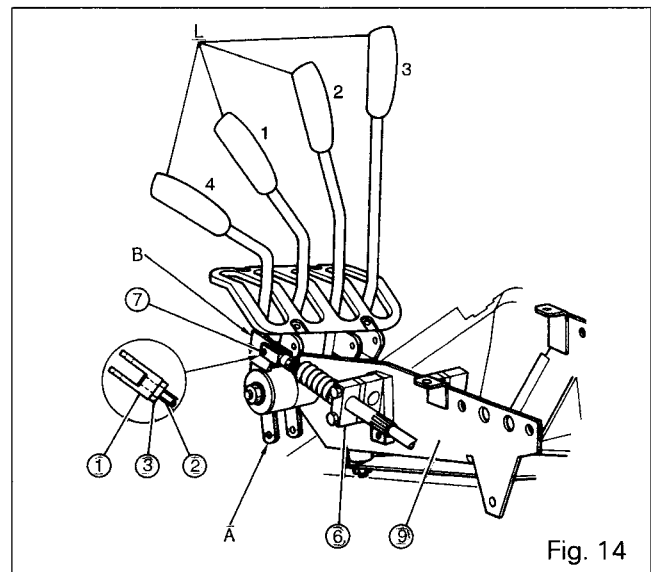
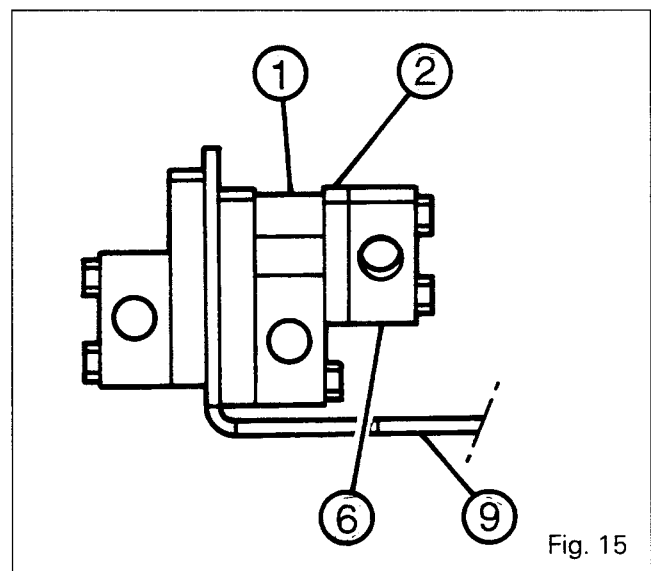

Fig. 14
Fig. 15
**Note:** According to the type of unit, the clevis (1) can be attached to rod A or B. Fig. 14.
1. Insert the cable into the slide at the back right-hand-side of the cab in the base (6).
**Note:** When the base (6) is displaced (floating position) assemble the spacer (1) and the plate (2) following Fig. 15.
2. Screw the clevis (1) to the end of the cable thread (2) and attach it to the rod A or B of the appropriate lever L using the clip (7) Fig. 14. Tighten the nut (3) and check that the cable moves freely, FIG. 14.